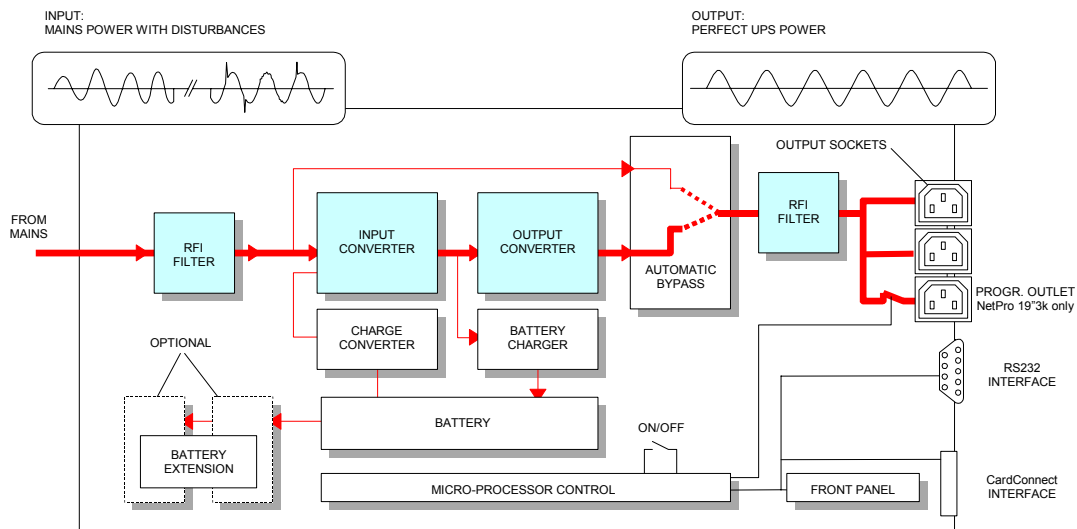

Figure 1 Block diagram of the NetPro 19" 2000-3000 UPS, mains present
The UPS stores electric energy in batteries housed in the unit. This allows the UPS to supply output power even when the incoming mains power is cut off completely. Energy is stored as Direct Current (DC), while input and output energy are Alternating Current (AC) in sine wave form. Therefore the UPS contains an input converter (AC to DC) and an output converter (DC to AC) (See fig.1).